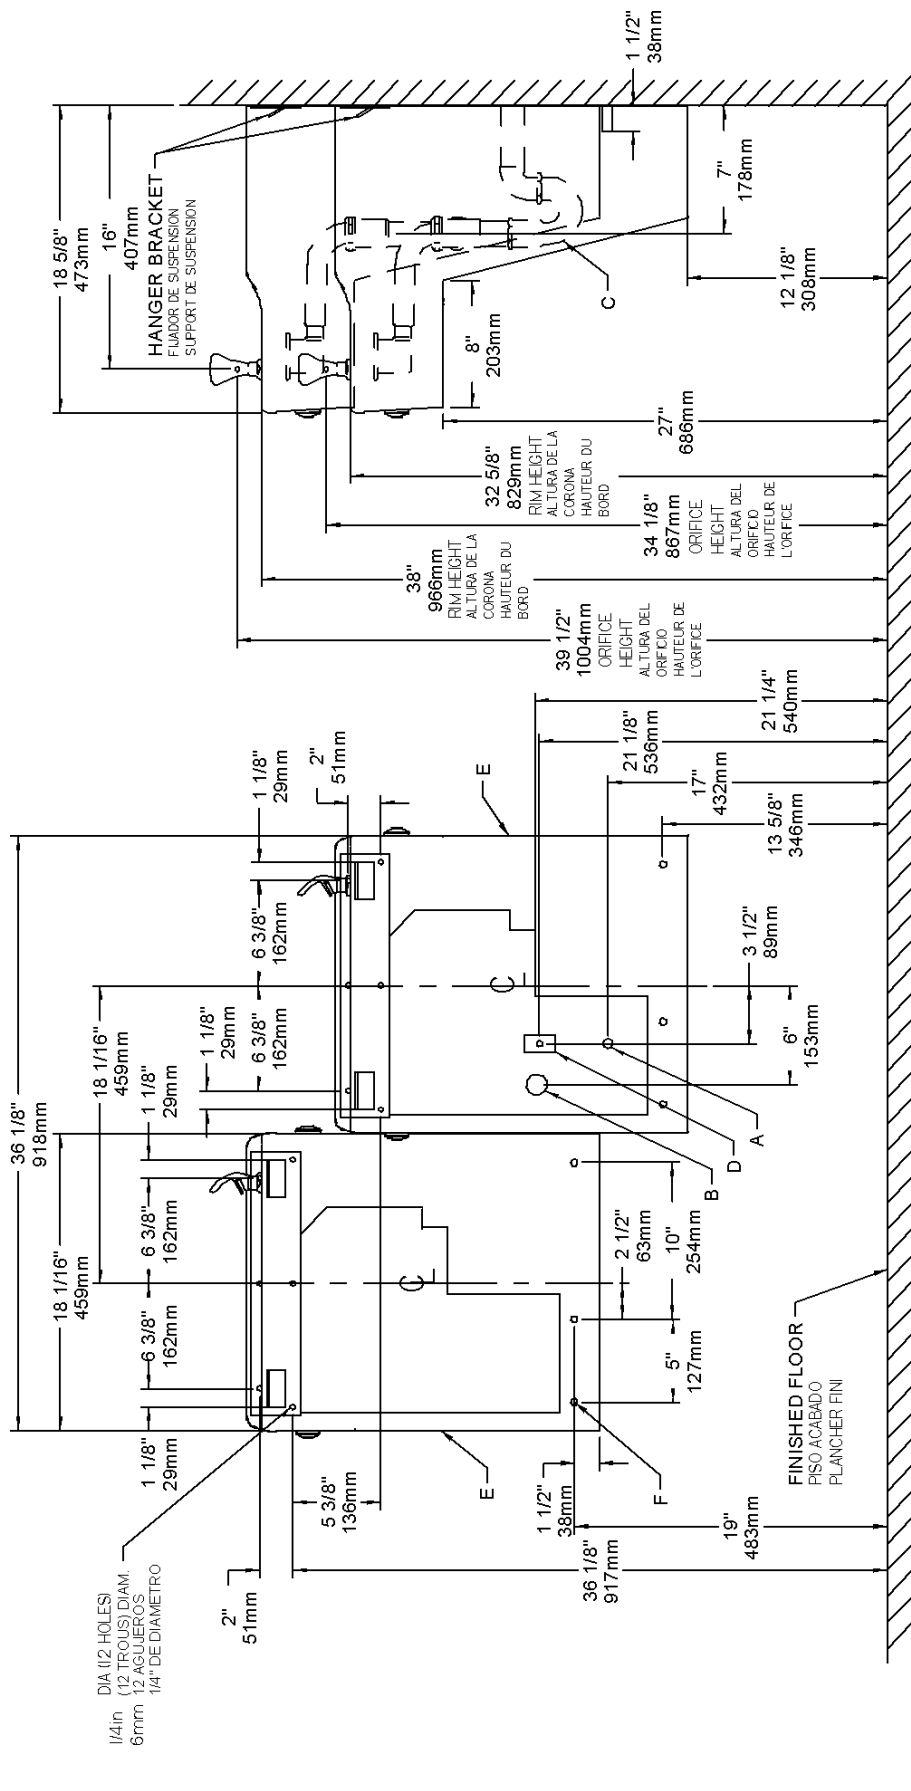

FIG. 2
- 1) Remove hanger bracket fastened to back of cooler by removing one (1) screw.
- 2) Mount the hanger bracket and trap as shown in Figure 2.